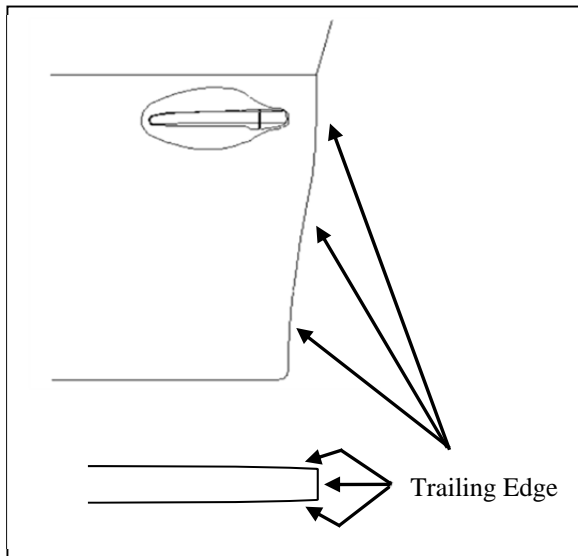

Fig. 1-1
- (1) Spray three to four pumps of Simple Green (or VDC approved cleaner) onto a lint free towel and pinch the wet towel between your thumb and forefinger while running along the length of the door edge to clean the inside and outside of the trailing edge of door. Make several passes to ensure the wax and oil has been removed (Fig. 1-1).